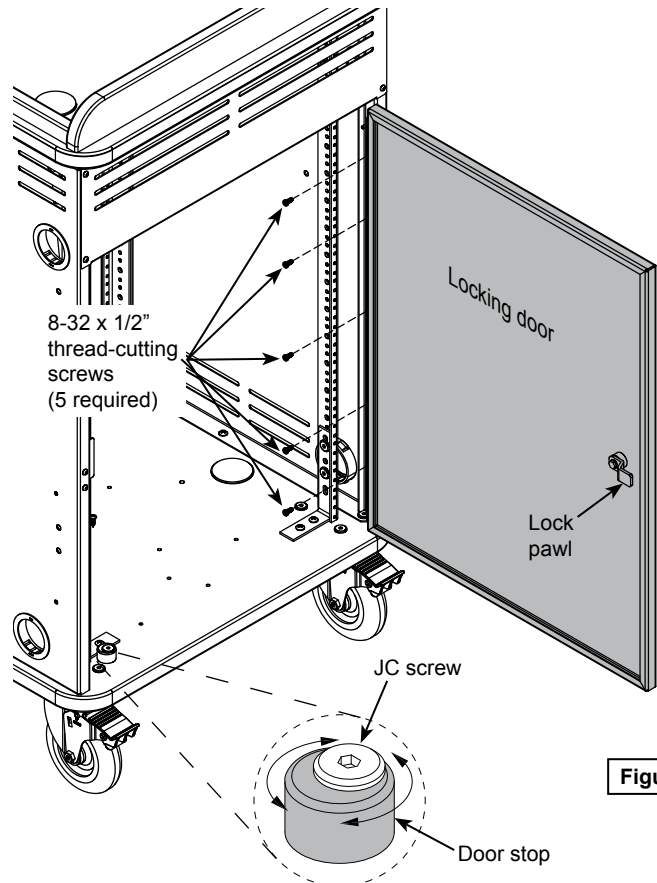

Figure 1
1. Open audience-side door fully. **Figure 1.**
2. Remove the (5) 8-32 screws securing the hinge, and lift out door.
1. Align and attach the door hinge to the right side panel mounting holes with (5) 8-32 x 1/2" PH thread-cutting screws. **Figure 1.**